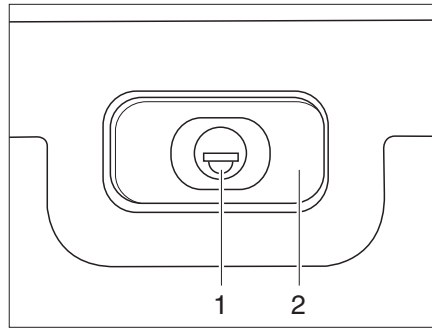

Fig. 29 Flap lock, rectangular, locked
- Insert the key into the locking cylinder (Fig. 29,1) and turn a quarter turn. Lock handle (Fig. 29,2) is released.